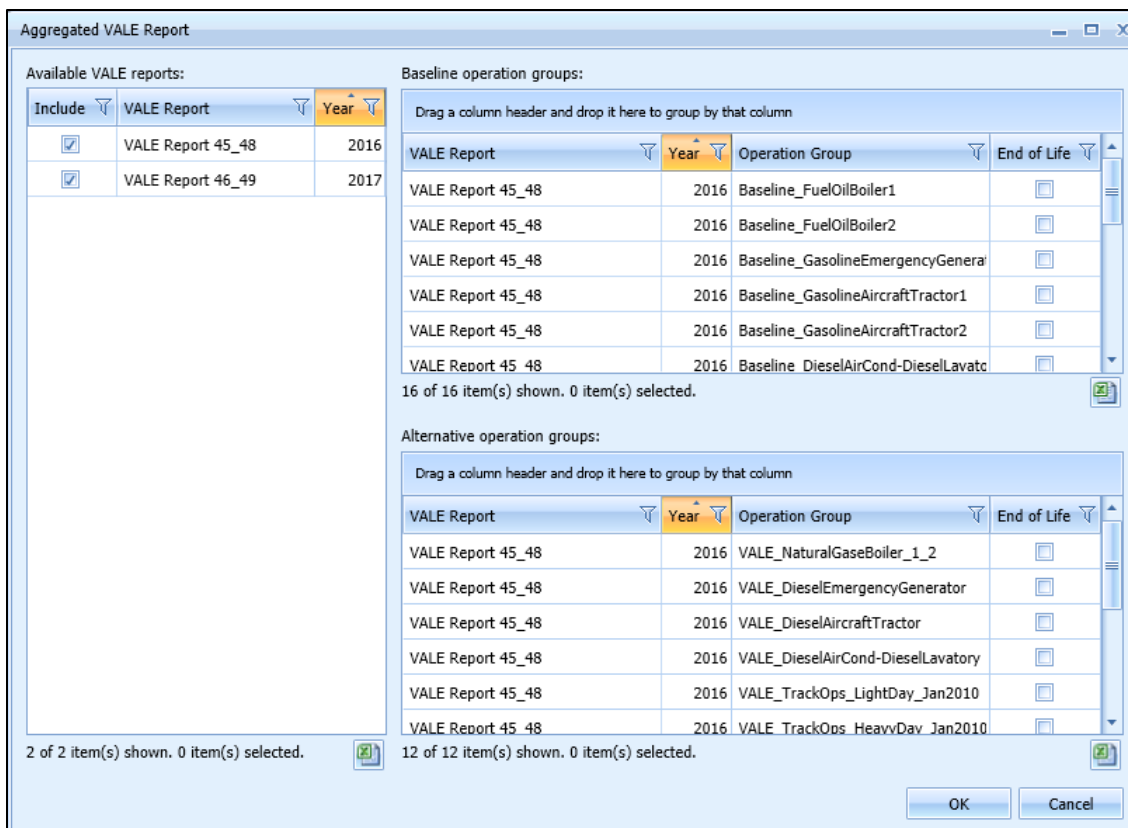

Figure 5-34 Sample Aggregated VALE Report Dialog
2. From the *Reports* ribbon group, click *Aggregated VALE Report* to open the *Aggregated VALE Report* dialog will (Figure 5-34).